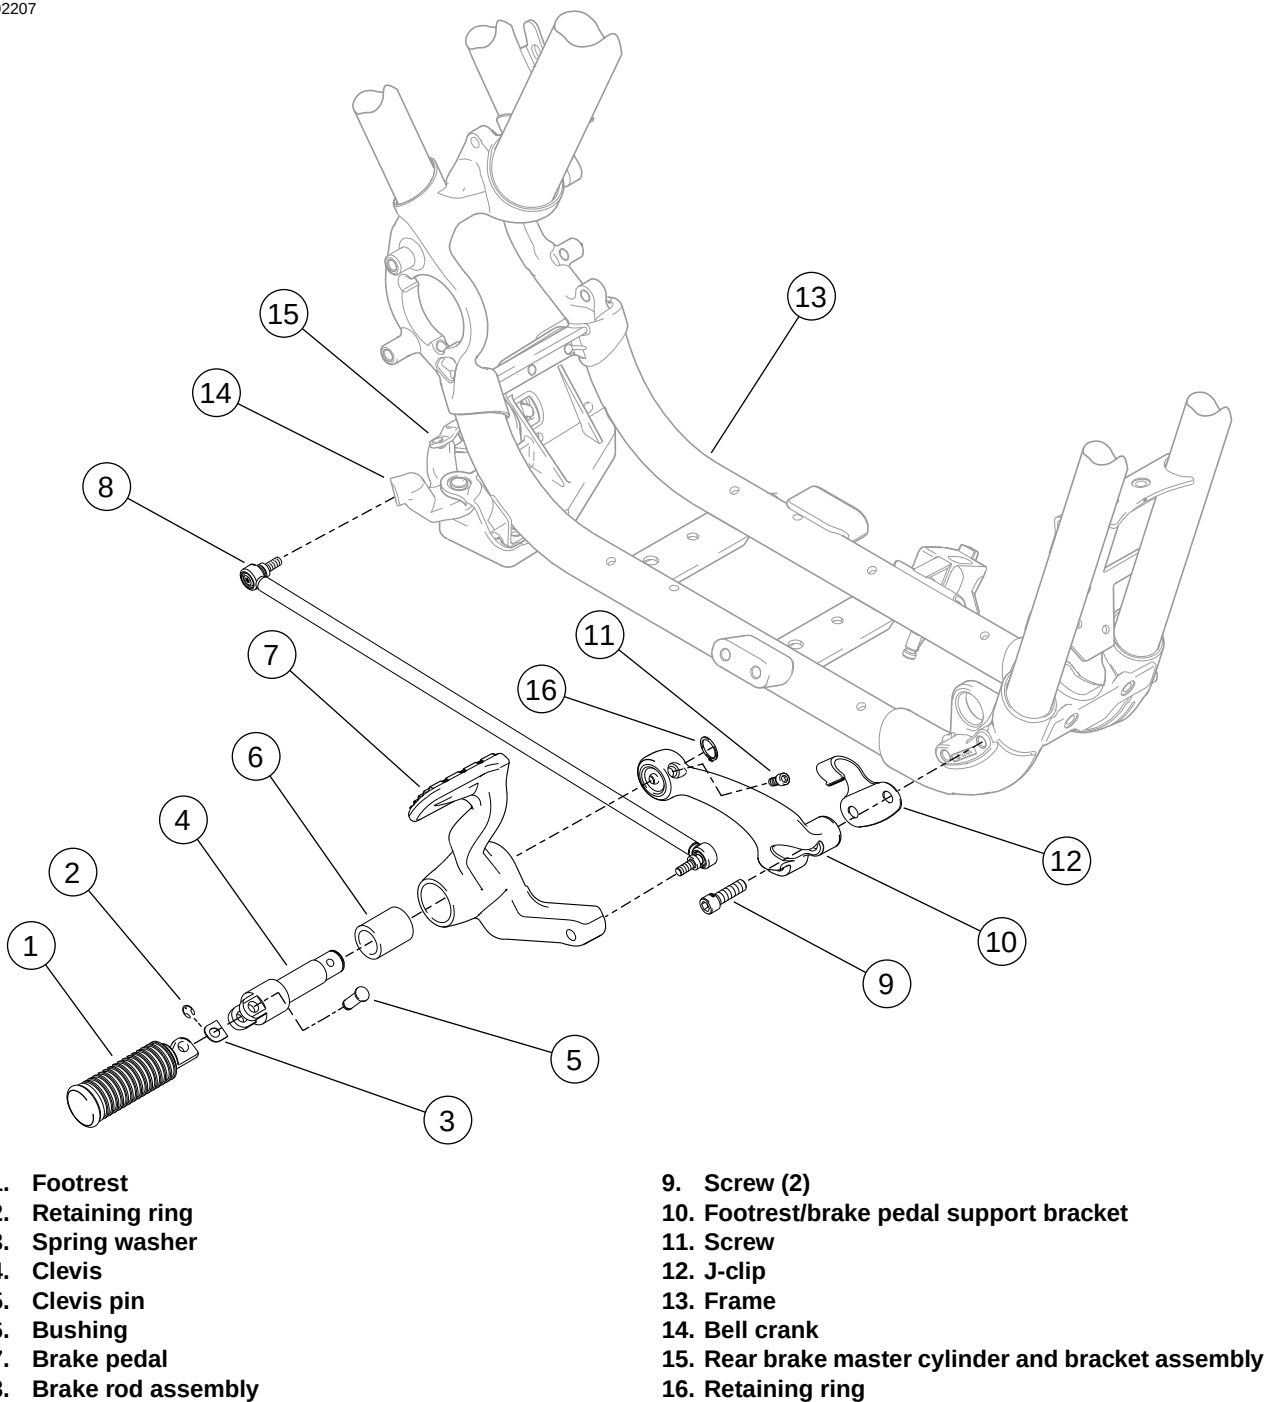

Figure 2-257. Forward Controls - Brake Side
1. See Figure 2-257. Remove retaining ring (2), clevis pin (5), footrest (1) and spring washer (3). Discard retaining ring.
2. Remove brake rod (8) from brake pedal (7) and master cylinder bell crank (14).
3. Remove retaining ring (16), screw (11) and clevis (4). Slide brake pedal off clevis. Discard retaining ring.
4. Remove two screws (9), footrest/brake pedal support bracket (10) and j-clip (12) from frame (13).
1. See Figure 2-257. Position j-clip (12) against frame as shown. Mount footrest/brake pedal support bracket (10)